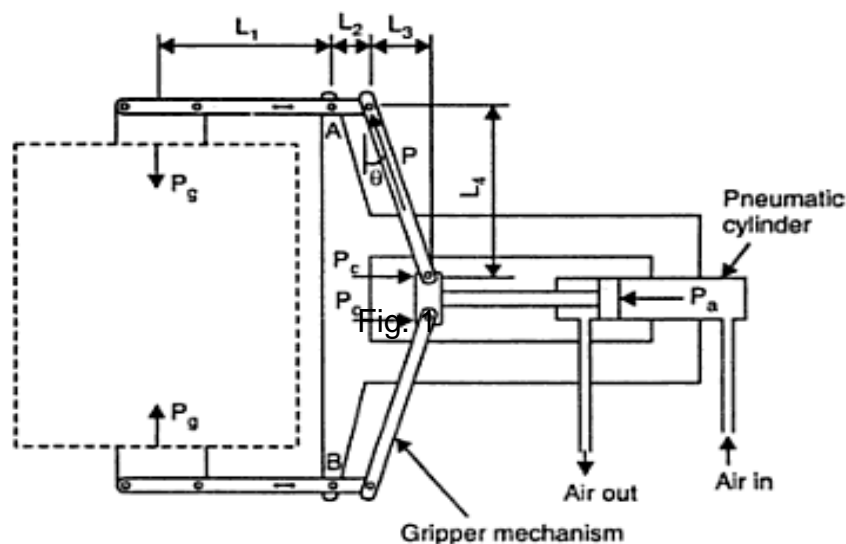

Fig 1
- 1B.** A Mechanical gripper with four fingers uses a friction grasp to hold the part of mass 7kg. The coefficient of friction between the part and gripper pad is 0.3. The diameter of the pneumatic cylinder and piston rod is 50mm and 20mm respectively. Assuming the factor of safety of 1.5 ,L1= 60mm ,L2 =40mm, L3=15mm, L4= 45mm. Referring to fig. 1, when the gripper is accelerating up with $a = 10\text{m/sec}^2$ and accelerating down with $a = 5\text{m/sec}^2$. Calculate the following. **(05)**